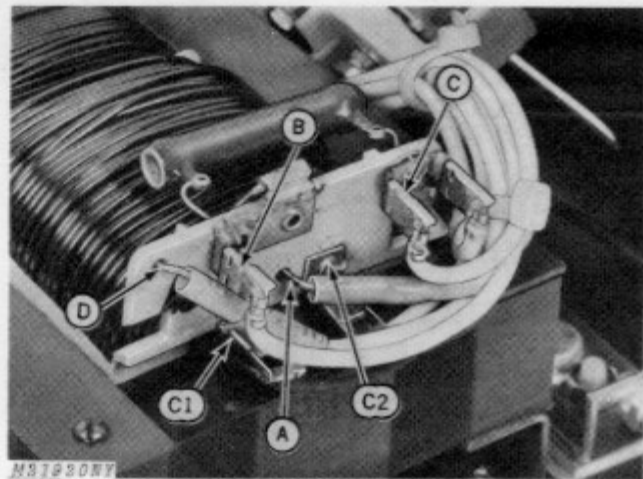

Fig. 10-Checking Charger Output
7. C1 and C2, Fig. 10 should read approximately 300 volts AC.